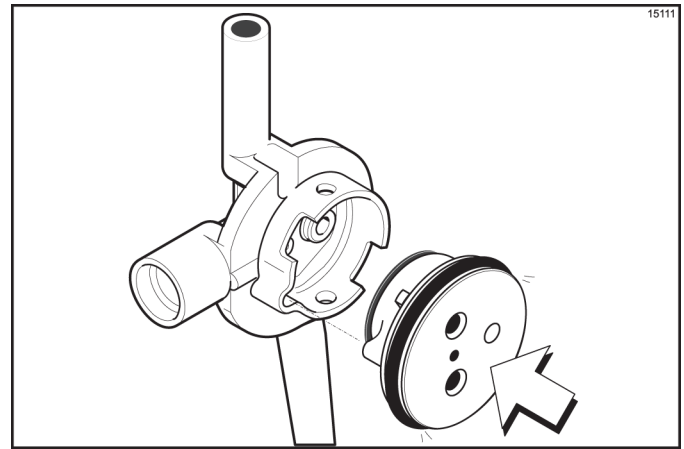

Figure 6-27
7. Insert the valve cap into the hole in the mix inlet adapter. (See Figure 6-27.)